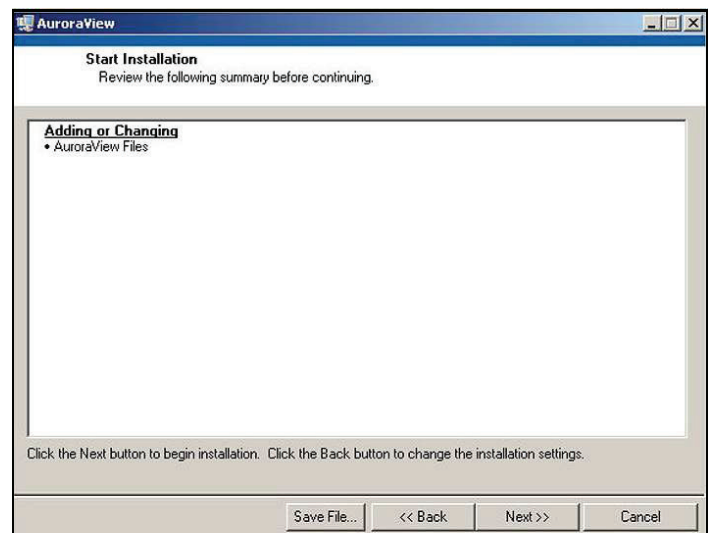

Figure 25: Starting the installation
7. The next screen (see *Figure 25* below) provides instructions for initiating the installation. When ready, click **Next** to begin.